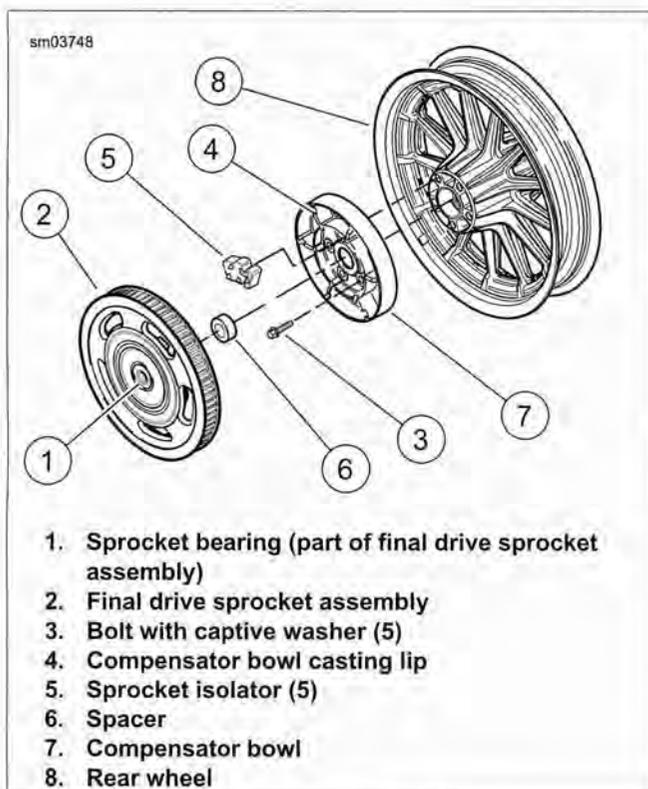

Figure D-1. Compensating Sprocket
2. See Figure D-1. Remove final drive sprocket assembly (2) and spacer (6).
3. Pull sprocket isolators (5) from compensator bowl (7).
1. See Figure D-1. Wipe inside of compensator bowl (7) and final drive sprocket (2) with a clean, damp cloth.
2. Inspect sprocket bearing (1). If bearing surface is rough or if bearing was leaking grease, replace bearing. See D.1 COMPENSATING SPROCKET, Sprocket Bearing Replacement.
3. Inspect sprocket isolators (5) for damage, deterioration, missing chunks or excessive debris beyond normal wear marks. Replace if necessary.
- See Figure D-1. Only remove compensator bowl (7) from rear wheel (8) if necessary. Bolts (3) are one-time usage only. If removed, they must be discarded and replaced with **new bolts**.
1. See Figure D-1. If compensator bowl (7) was removed, install bowl onto rear wheel with **new** bolts with captive washers (3). Tighten bolts as follows:
*Do not lubricate inside of compensator bowl (7), sprocket (2) or sprocket isolators (5) with any type of oil based lubricant. Use ONLY soapy water or window cleaner on isolators to facilitate their installation. Do not install isolators dry.*
3. See Figure D-1. Install spacer (6) by placing on bowl casting lip (4).
4. Install sprocket (2) onto compensator bowl (7).